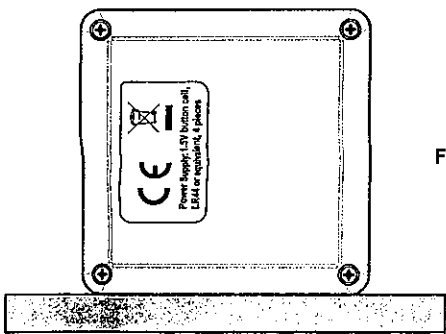

Figure 12
- Wait until the number "5" of the displayed "CA d 5" flashes, then rotate the instrument by 180° along the vertical axis so that the instrument's front panel faces away from you; the result placement of the instrument is shown in Figure 12. Press the "REL" key once. The display shows "CA d 6".